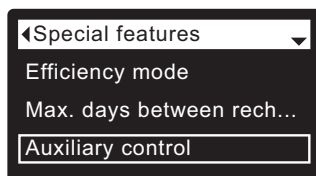

FIG. 92
1. From any of the rolling status screens, press the SELECT (O) button to display the **Main menu**.
3. Press the SELECT (O) button to display the Advanced settings menu.
5. Press the SELECT (O) button to display the Special features menu (See Figure 92).
9. Press the SELECT (O) button. The display will go back to the Special features menu (Figure 92).